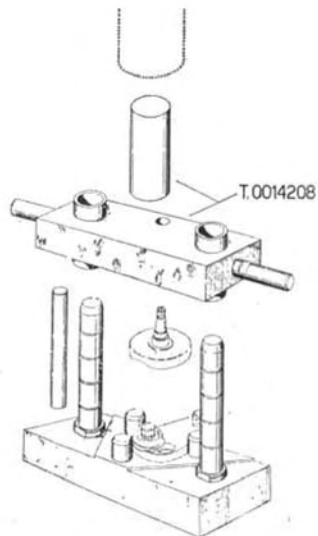

Fig. 106 - Re-assembling the crankshaft (2nd operation).
5. - Locate all these parts on assembly jig T.0014208 as shown in Fig. 106 and press the other web into position.